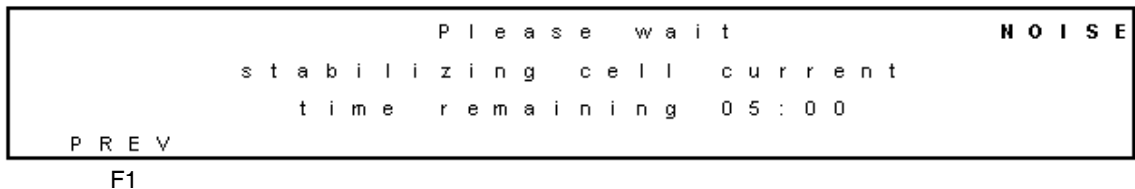

Figure 5-4 Noise Test with Dummy Cell
- b. Select **F2 NOISE**. The Noise screen appears (Figure 5-4).